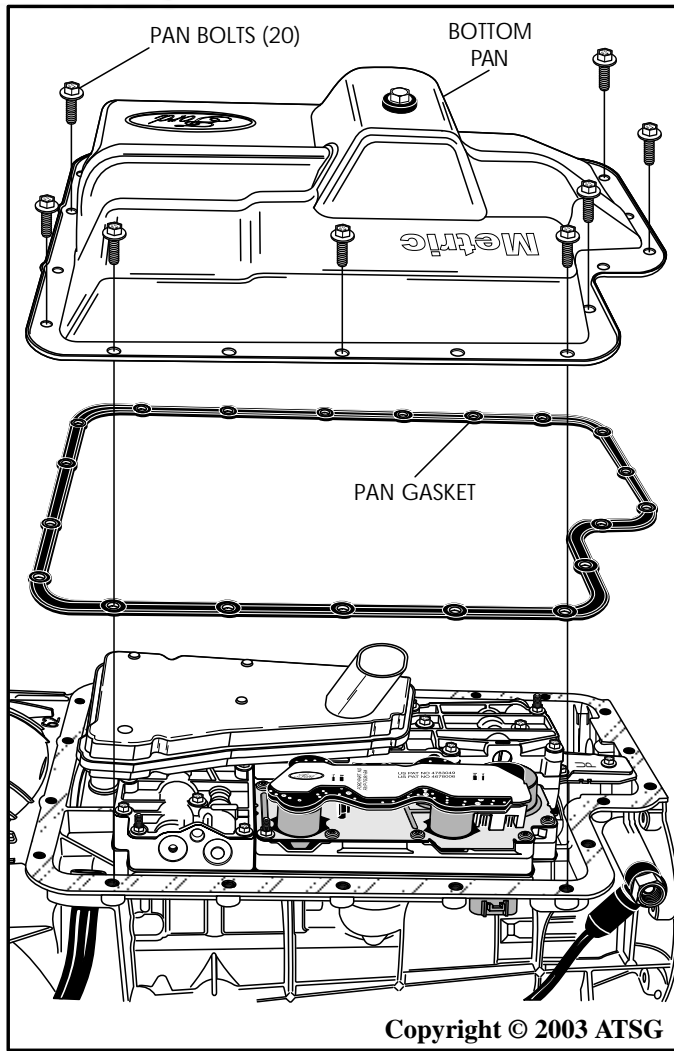

Figure 47
5. Rotate the transmission so that the bottom pan is facing up, as shown in Figure 47.
1. Remove the 20 bottom pan bolts, the bottom pan and the bottom pan gasket, as shown in Figure 47.